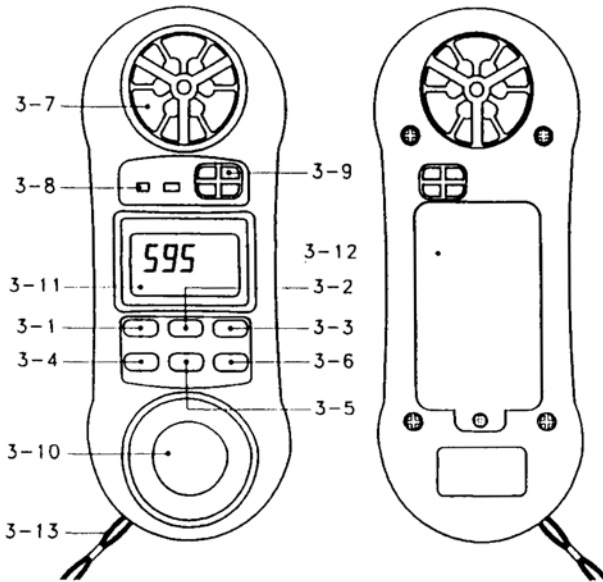

Figure 1
1. Power on the instrument by pressing the "Power Button" (3-1, Figure 1).
2. Select the Anemometer function by pressing "Function Button" (3-6, Figure 1).
3. Press the "Unit/Zero Button" (3-4, Figure 1) to select the unit you want and then face the "Air Flow Sensor" (3-7, Figure 1) to the source of the wind.
2. Plug a type K thermocouple probe in the "Thermocouple Input Socket" (3-8, Figure 1).
3. Select the Temperature function by pressing "Function Button" (3-6, Figure 1).
1. Power on the instrument by pressing the "Power Button" (3-1, Figure 1, Page 4).
2. Select the Relative Humidity function by pressing "Function Button" (3-6, Figure 1).
2. Select the Light Measurement function by pressing the "Function button" (3-6, Figure 1) until the light value is displayed. The light display digits are oriented 180° from the other function displays for easy exposure and output reading of the light sensor.
3. Press the "Lux/Ft-cd Button" (3-5, Figure 1) to select measuring unit "Lux" or "Ft-cd".
- For best results zero the light sensor prior to use in a dark environment. Placing the light sensor end of the meter under a desktop or flat surface so as to block any light can accomplish this. Then press the "Unit/Zero Button" (3-4, Figure 1) to set the meter indication to zero.
Press the "Hold Button" (3-2, Figure 1) to freeze the current reading value with a "HOLD" symbol on the display.
1. The Data Record function records and displays the maximum and minimum reading values. Start the Data Record function by pressing the "Max./Min. Button" (3-3, Figure 1) once. There will be a "REC" symbol on the display.
- (a) Press the "Max./Min. Button" (3-3, Figure 1, Page 4) once and the "Max" symbol along with the maximum value will appear on the display.
- (d) Clear the "Max./Min. value recorded by pressing the "Hold Button" (3-2, Figure 1) once. Previous recorded "Max./Min. value will be given up and then revert to the REC function keep on recording.
2. Open the "Battery Compartment/Cover" (3-12, Figure 1, Page 4) and remove the battery.